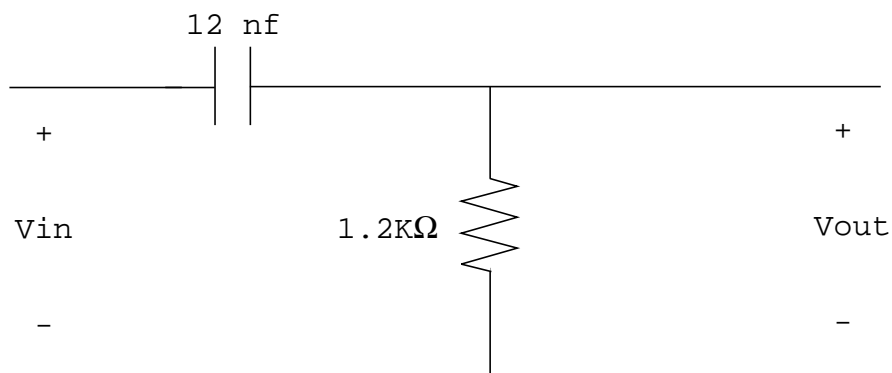

Figure 2.
- L-4. Using the given Function Generator and an oscilloscope, apply a +10-10 volt triangular-wave signal to the input of the circuit in Figure 2. Vary the frequency of the input signal until the signal across the resistor looks like a square-wave. Record the frequency and the waveform.
- L-5. Using the given Function Generator and an oscilloscope, apply a +10-10 volt ramp-wave signal to the input of the circuit in Figure 2. Observe and record the signal across the resistor (the circuit is basically differentiating the input signal).